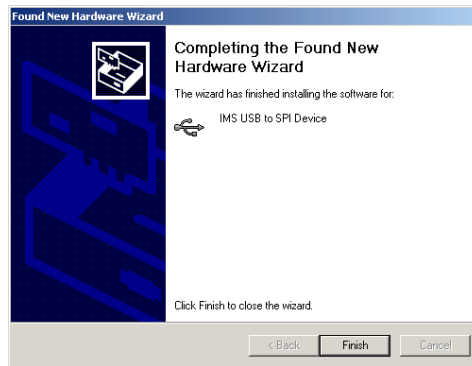

Figure A.8: Hardware Update Wizard Finish Installation
- 9) The Driver Installation will proceed. When the Completing the Found New Hardware Wizard dialog appears, Click “Finish” (Figure A.8).